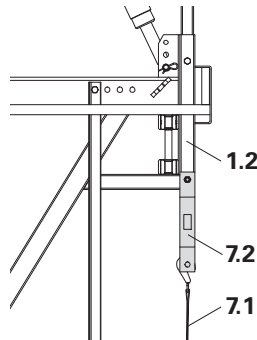

Fig. B1.30
2. Mount tension belt (7.1) to the bolts using the end of the belt without turnbuckle. (Fig. B1.30)